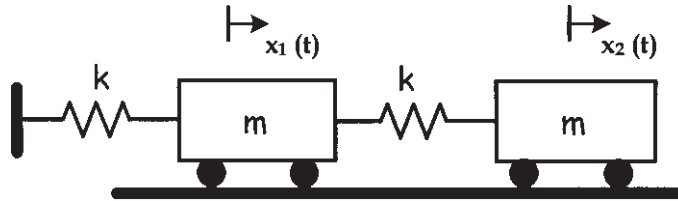

Fig. 1
b) Find the natural frequencies and mode shapes for the system shown in Fig. 1. [15]